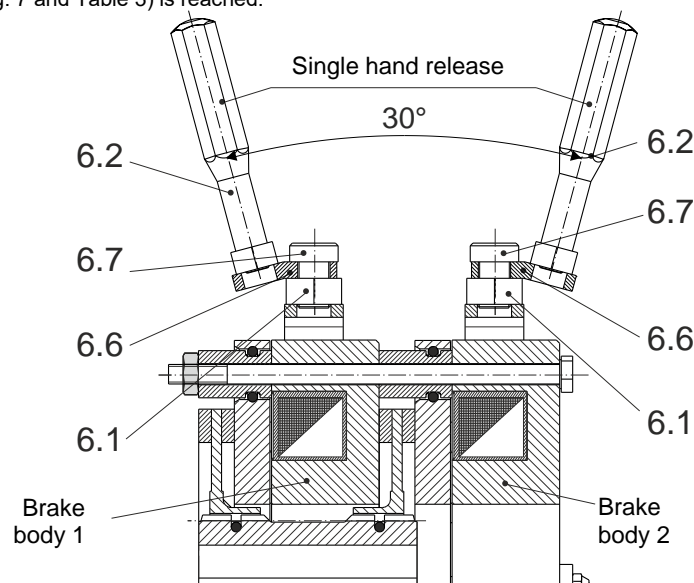

Fig. 8
1. Screw the bracket (6.6) with the cap screw (6.7) into the switch bracket (6.1) vertical to the switch bracket (6.1) as shown in Fig. 8, and secure it using Loctite 243.